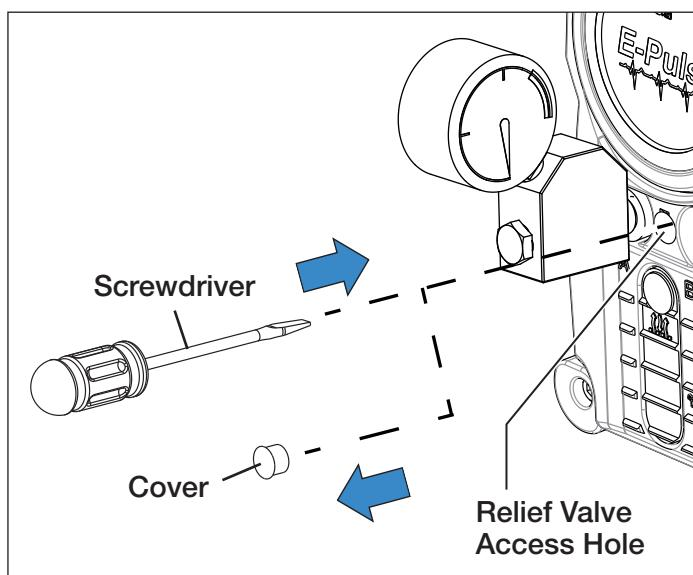

Figure 10, Pressure Relief Valve Adjustment
5. Insert a flat blade screwdriver into the notch above the relief valve access hole. Remove the protective cover. See Figure 10.